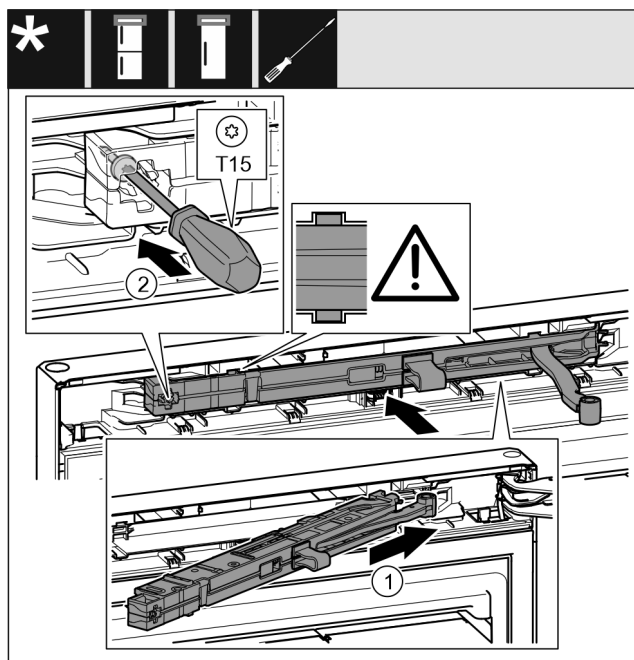

Fig. 23
- ▶ On the swap bearing block side, slide the closing damper unit *Fig. 23 (1)* into the recess at an angle up to the stop.
- ▶ Use a screwdriver to tighten the screw *Fig. 23 (2)*.